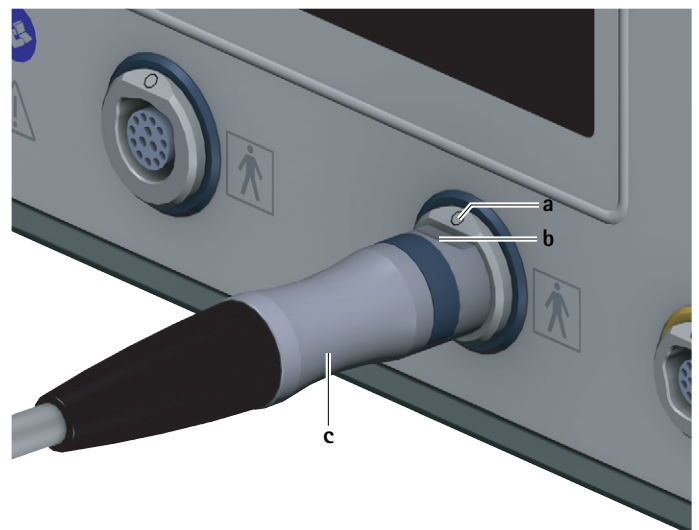

Fig. 3 Connecting the motor cable
- Position connector for control unit **c** on the motor cable so that marking **b** on the connector is aligned with marking **a** on the connection socket for applied parts **7**, see Fig. 3.
- ▶ Unplug the motor cable on the connector for control unit **c** from the connection socket for applied parts **7**, see Fig. 3.